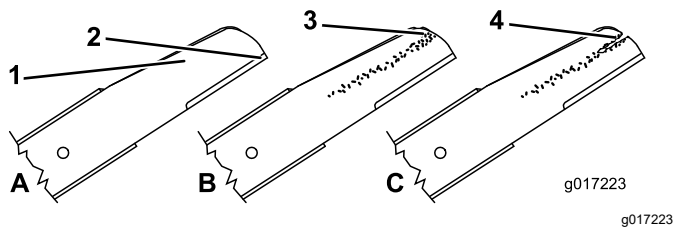

Figure 38
1. Inspect the cutting edges (Figure 38). If the edges are not sharp or have nicks, remove the
2. Inspect the blades themselves, especially the curved area (Figure 38). If you notice any damage, wear, or a slot forming in this area, immediately replace it with a new blade.